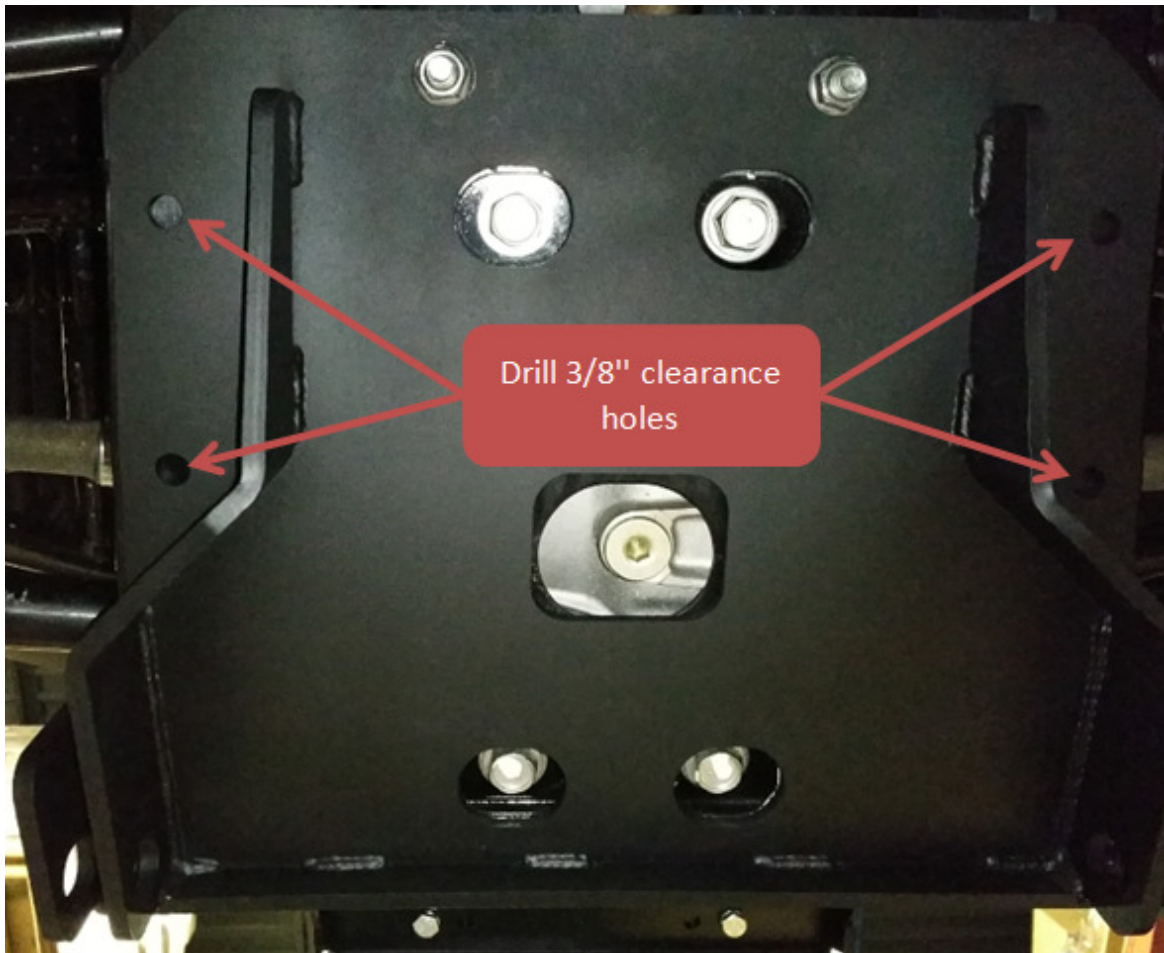

Figure 3
4. Using a 3/8" drill bit, drill four holes into the underbody of the Mule using the plow mount as a template as shown in Figure 3.